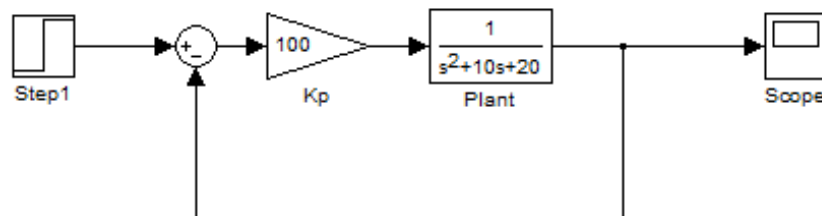

Fig. 8. Plant with Proportional controller
- i. Model the second order closed loop system as in Fig. 8 with a proportional controller. Provide the proportional gain $K_p = 100$.